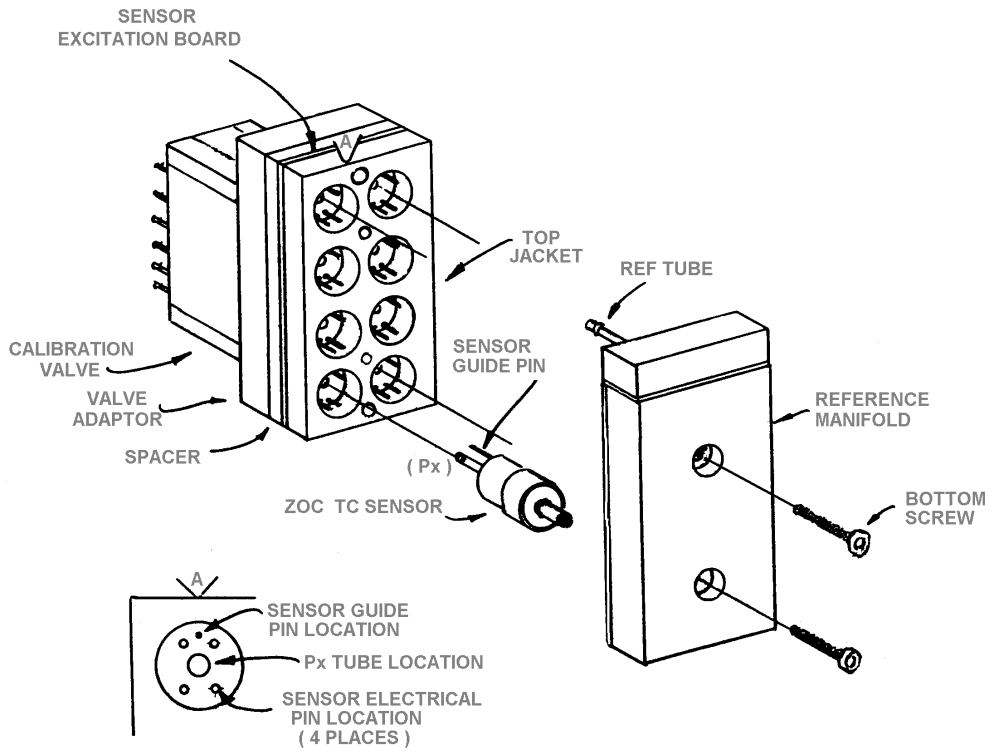

Figure 16 - ZOC16TC Sensor Replacement
8. With the valve assembly positioned as shown in figure 16, Remove the two bottom screws and the reference manifold.